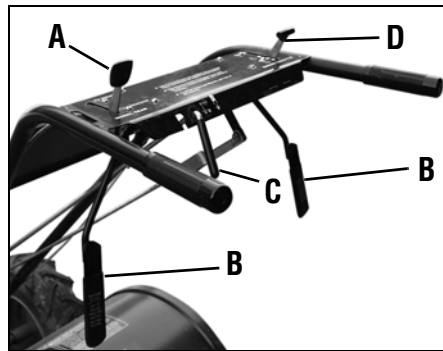

Figure 3-1: Control panel.
This lever (A, Figure 3-1) has two positions: ENGAGE and DISENGAGE.
Two interconnected levers (B, Figure 3-1) control engagement of the forward drive to the wheels and power to the tines.
**IMPORTANT:** The Forward Clutch Levers are connected to a mechanical interlock that automatically shifts a separate Wheel Gear Lever (A, Figure 3-1) into ENGAGE position when either Forward Clutch Lever is pulled up against the handlebars. This is a safety feature designed to prevent the wheels from being in DISENGAGE (freewheel) position when the tines are rotating.
This control (C, Figure 3-1) engages the reverse drive to the wheels and power to the tines. It is used for moving the tiller short distances in a reverse direction.
The throttle lever (D, Figure 3-1) is used to adjust engine speed as well as stop the engine. Use the START position when starting the engine. Pull the lever all way back to the STOP position to shut the engine off.